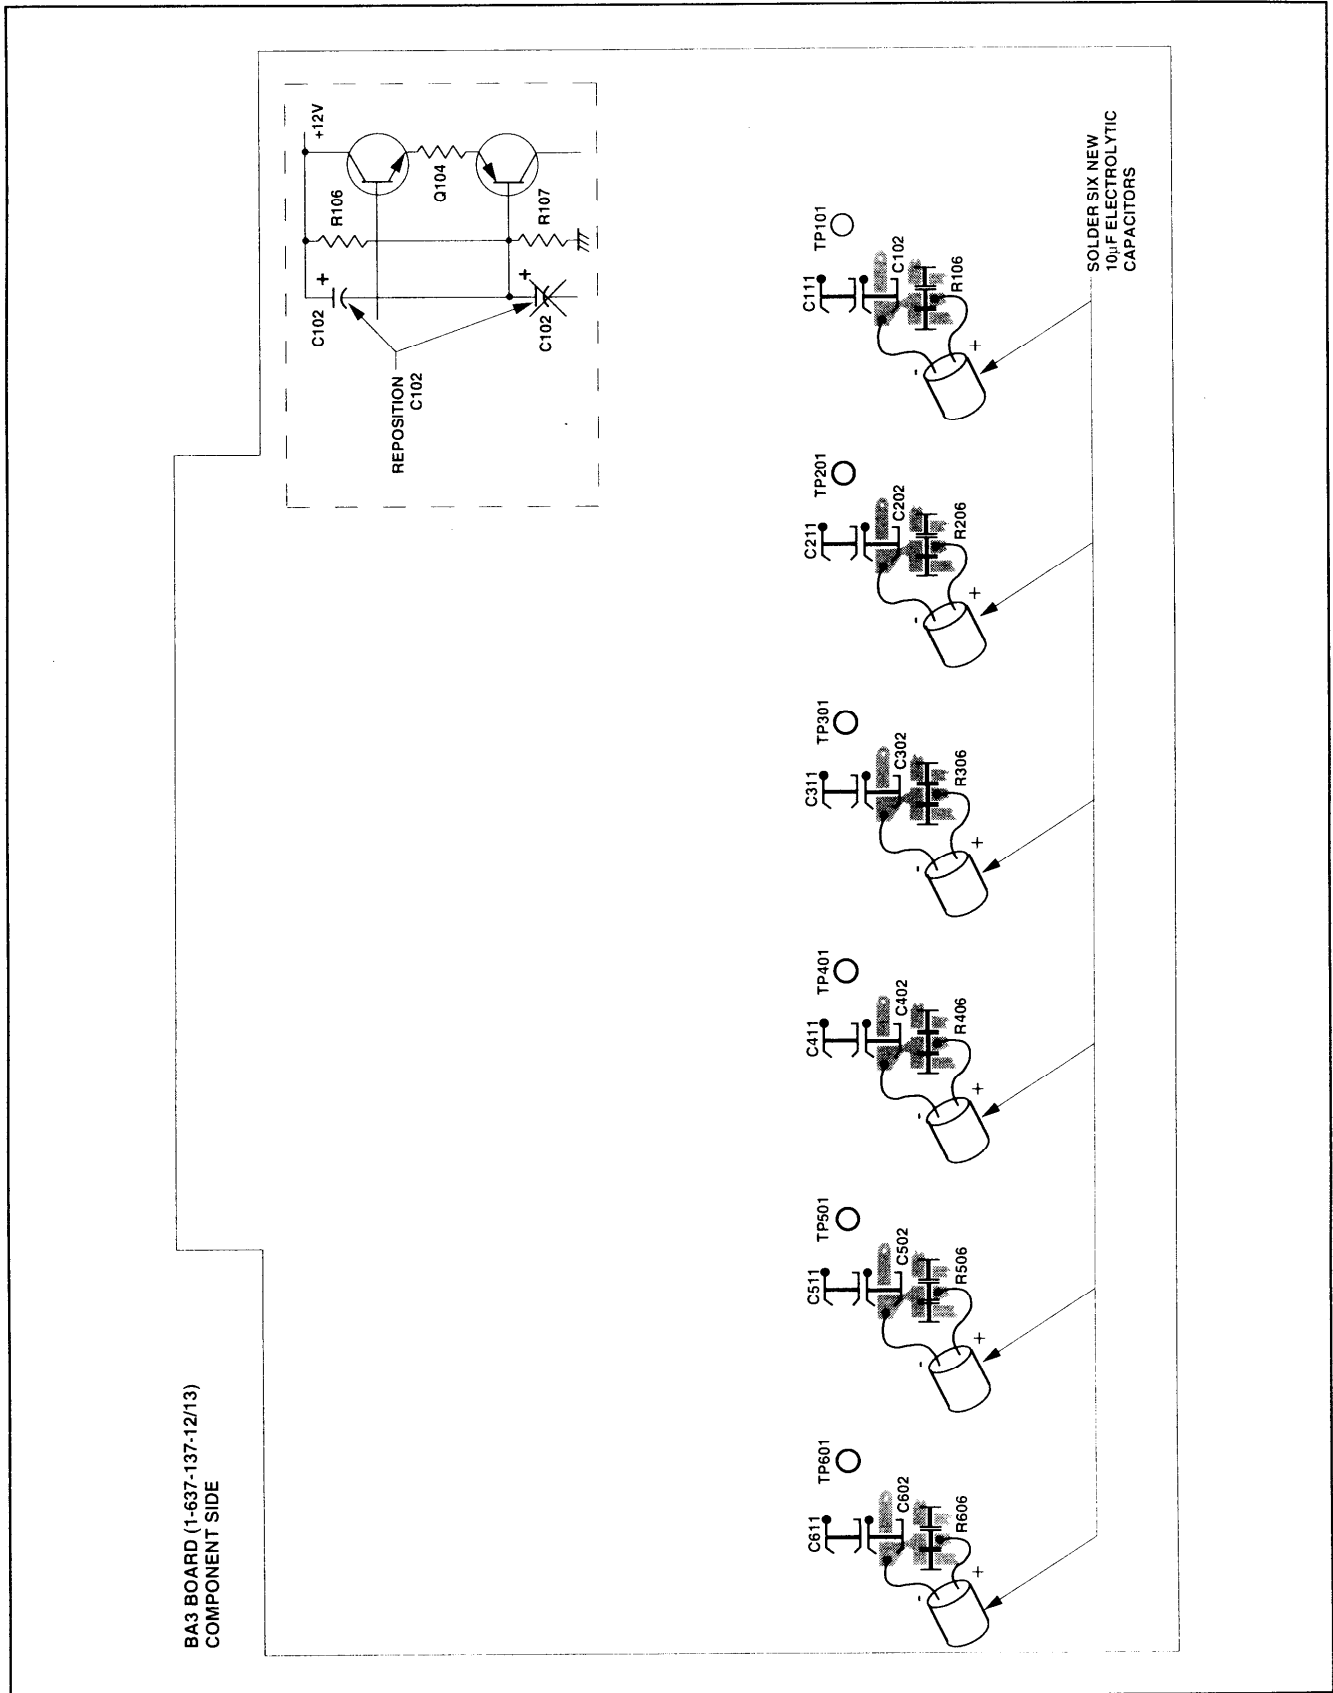

Figure 5
BA3 Board (1-637-137-12/13) Component Side (See Figure 5.)
2. Solder six new 10 μ F electrolytic capacitors at new positions shown in Figure 5.